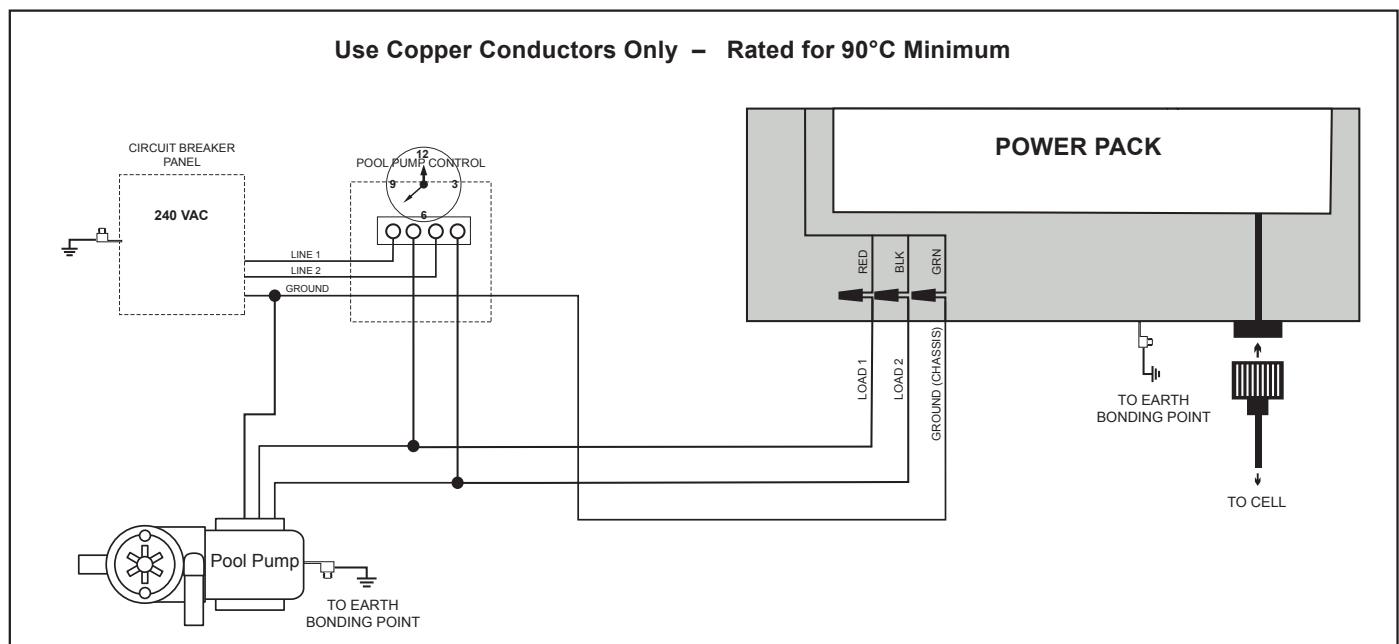

Figure 4. Wiring Diagram
1. Wire power pack to pool pump power source using 3.3 mm² (12 AWG) insulated wire and conduit. Wire the power pack to the LOAD side of the filter pump or the LOAD side of the pool pump timer relay so that the chlorinator can only come on when the pool pump comes on (see Figure 4).